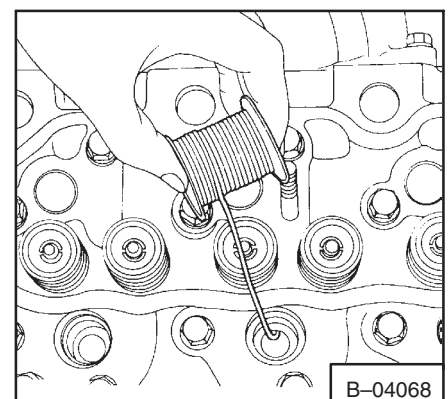

**Fig. 7C-41** Torque Sequence
3. Put oil on the bolts and nuts and tighten torque. Use the same tightening sequence as shown in (Fig. 7C-41).